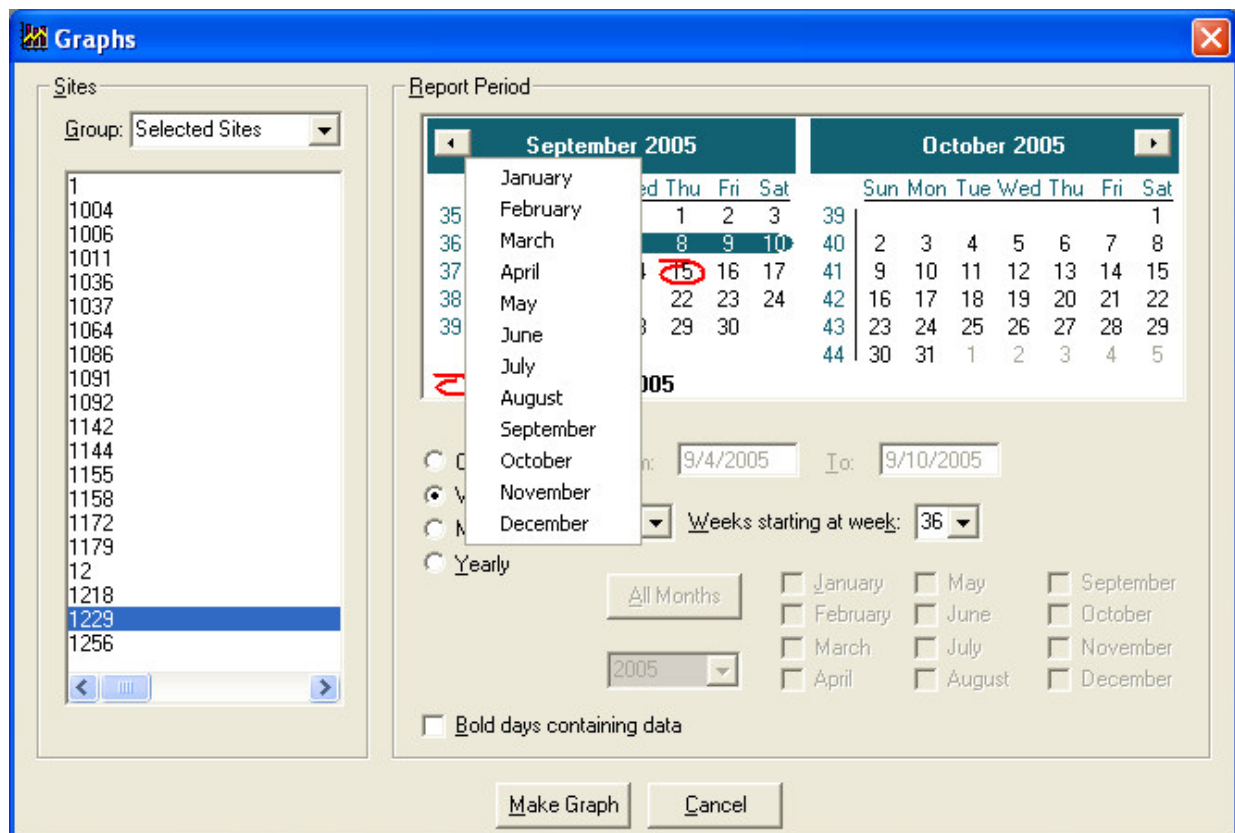

Figure 8: Graph selection with month drop-down
- e. Calendar control – A time period may be selected on this control by simply using a select and drag method. A month can be quickly selected by clicking on the month text to reveal a pop-up menu as shown below in Figure 8. You can also rotate through the months by clicking on the arrow buttons in the upper left-hand and right-hand corners.